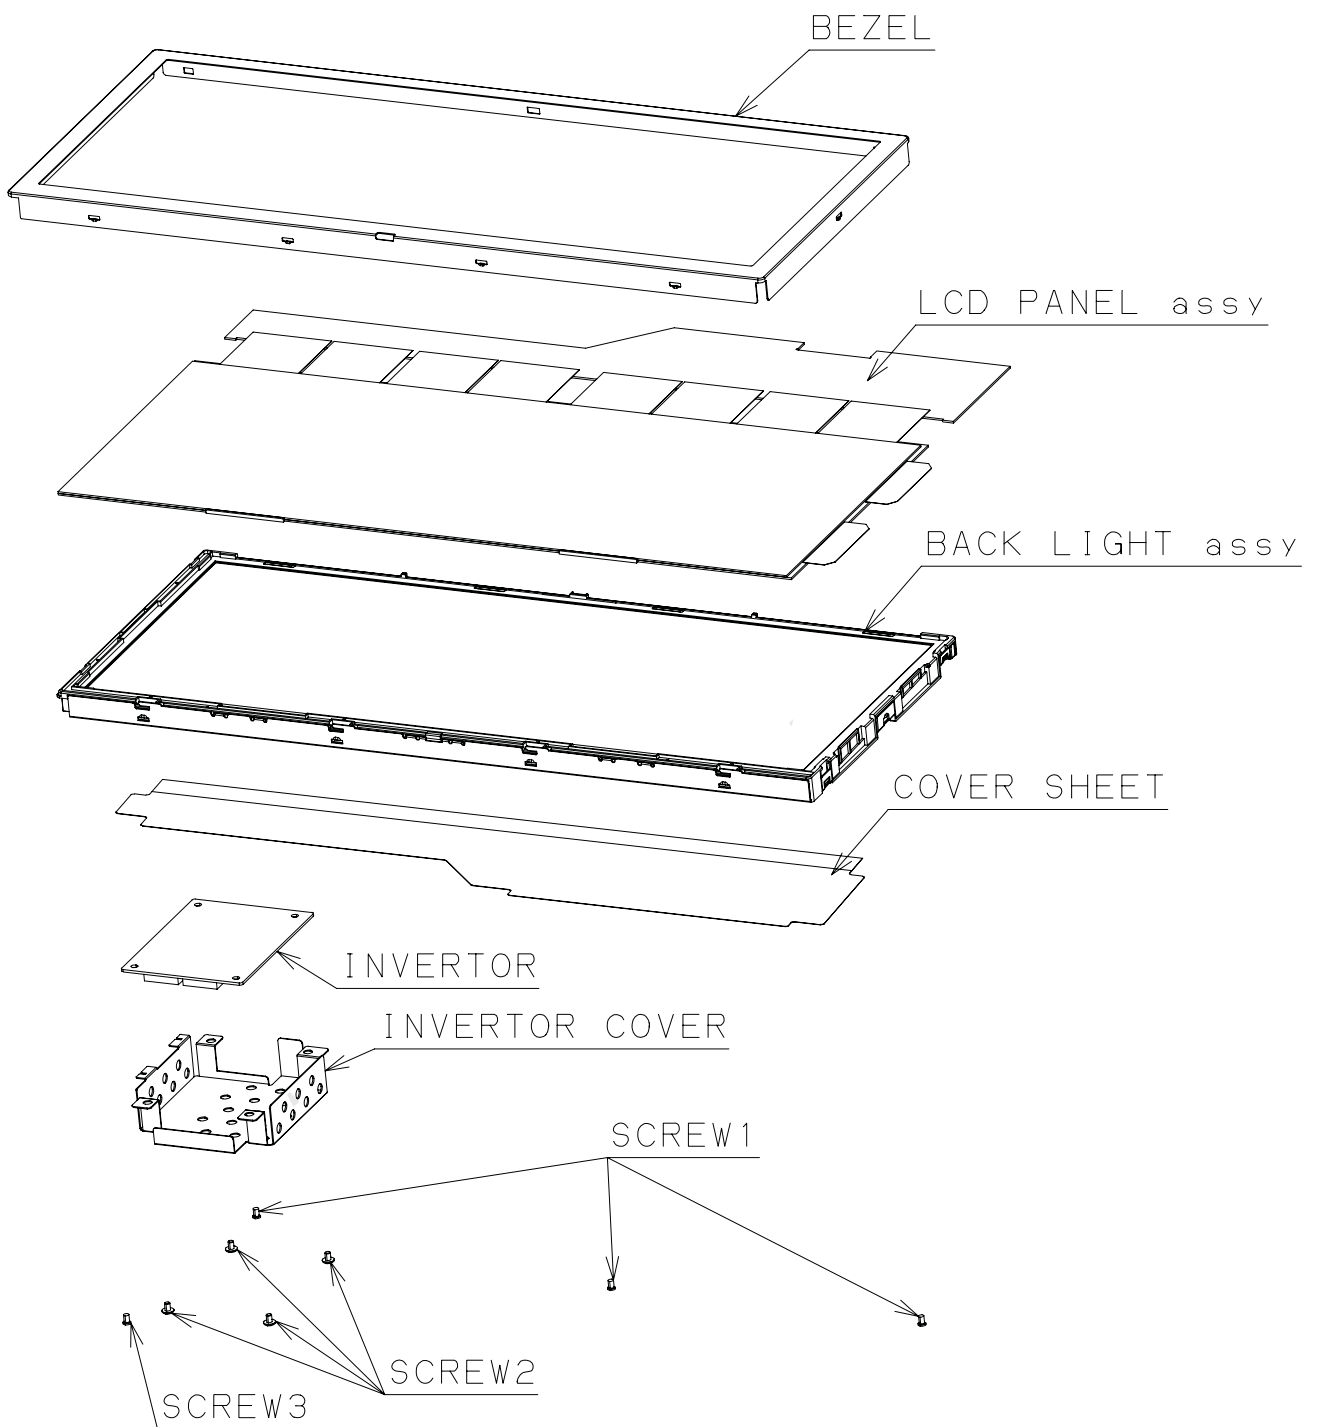

FIG4.Module Diagram
9) Please refer to Figure 4 for the assembly form of the module ,and refer to Figure 5 for lot No. of the back of the module.